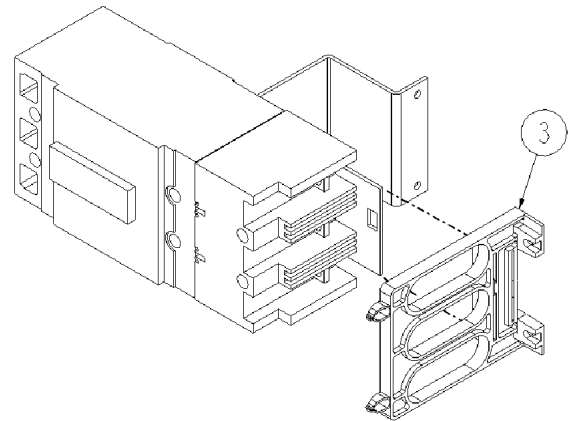

Figure 4. Cover support snapped onto the breaker.
- 4. Attach the cover support.** Slide the cover support [3] onto the existing bracket on the circuit breaker, as shown in Figure 4. The cover support will snap into place when it is correctly positioned.